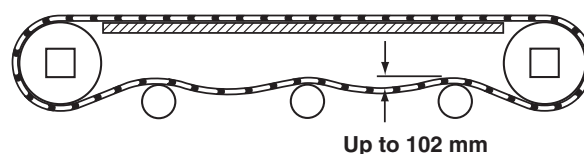

Figure 44
4. Check belt sag by measuring from the top of the return (**Figure 44**). Belt sag should not exceed 102 mm. Follow steps 7 – 9 in the “Belt Installation” section on page 14 to remove slack from the belt.